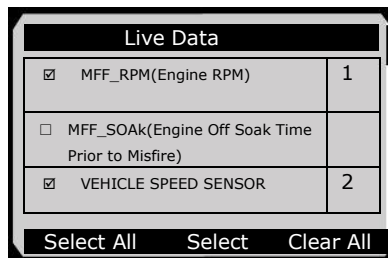

Figure 5.27
- 1) To view live data, use the **UP/DOWN** scroll button to select **Live Data** from **Function Menu** screen (Figure 5.27), and press the **OK** button. The screen will show as below.